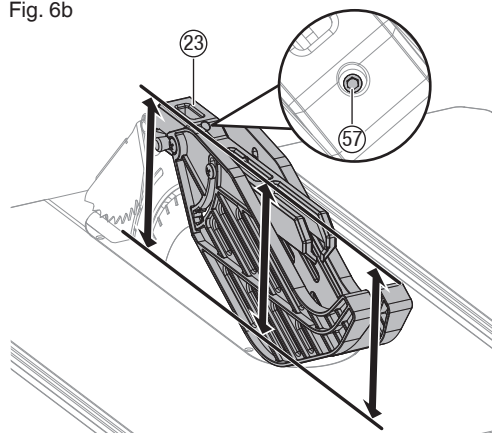

Fig. 6c
- If blade guard is not parallel to table when riving knife is in uppermost position (through cuts), adjust the set screw (57) as necessary. (Fig. 6c)